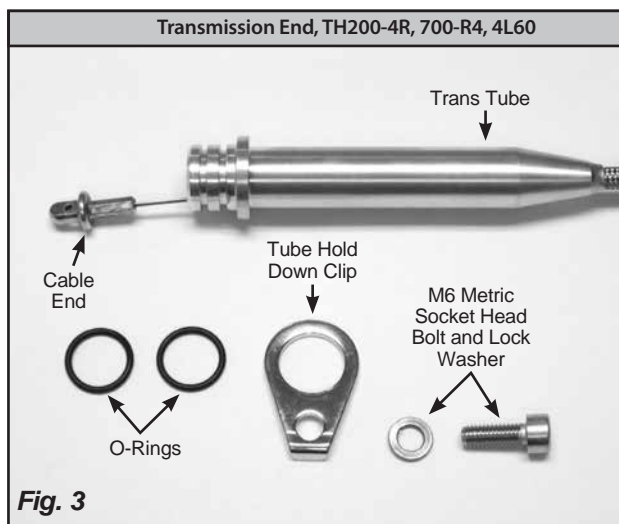

Fig. 3
Step 8: On the trans tube at the transmission end of the kickdown cable there will be either one or two o-ring grooves. TH350 & TH200 use one o-ring, and the 700-R4, TH200-4R, and 4L60 use two o-rings. Lightly lubricate the kickdown cable o-ring(s) with clean transmission fluid and slide the o-ring(s) into the groove(s) on the trans tube. To help prevent leakage add a small amount of silicone sealant (RTV) around the trans tube above the top o-ring. **Fig. 3**